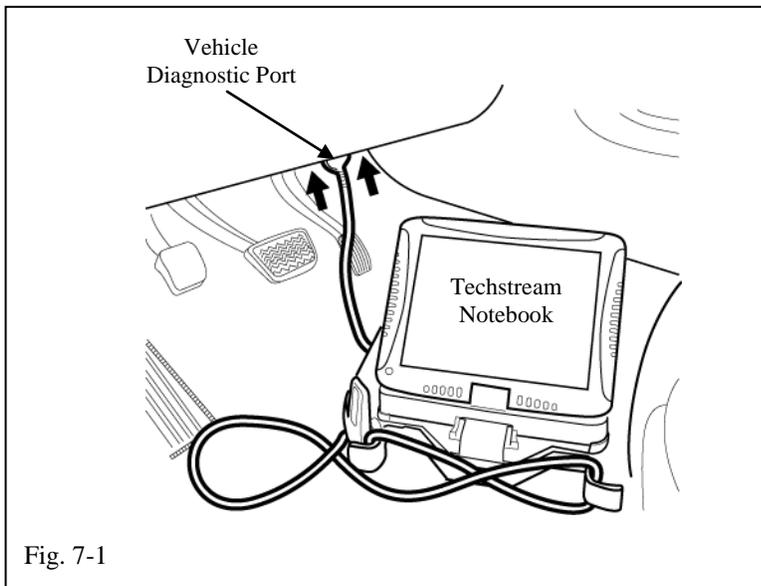

Fig. 7-1
- (a) Connect the Techstream Notebook to the Vehicle's Diagnostic Port. (Fig. 7-1)